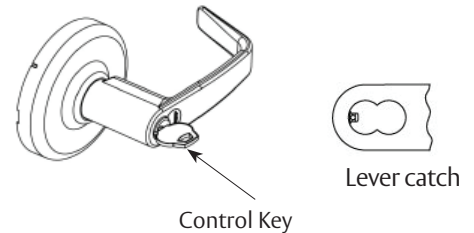

Figure 12
b. Interchangeable Core LFIC or SFIC (Figure 12)